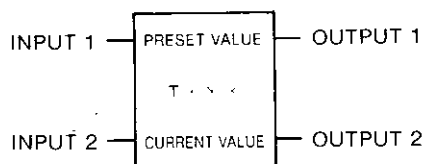

Fig. 5.13 Timer General Form
NOTE The transitional contact to the associated reference coil in the skipped network is not operated correctly. (Fig. 5.13.) The contact remains ON or OFF.
Fig. 5.13 shows the basic form of a timer. A timer is built vertically and needs two elements (top and bottom). Specify any of constant K or reference numbers, referring to Table 5.7. T × × × identifies a specific type of timer. Specify any of T1.0, T0.1, or T.01 referring to Table 5.6.
- When the current value is equal to the preset value (10), the timer stops and output 1 (coil 00020) is turned ON and output 2 (coil 00021) OFF.
- If input 2 is ON and input 1 is cycled ON-OFF-ON-OFF; the time intervals while input 1 is ON are added. See Fig. 5.13.